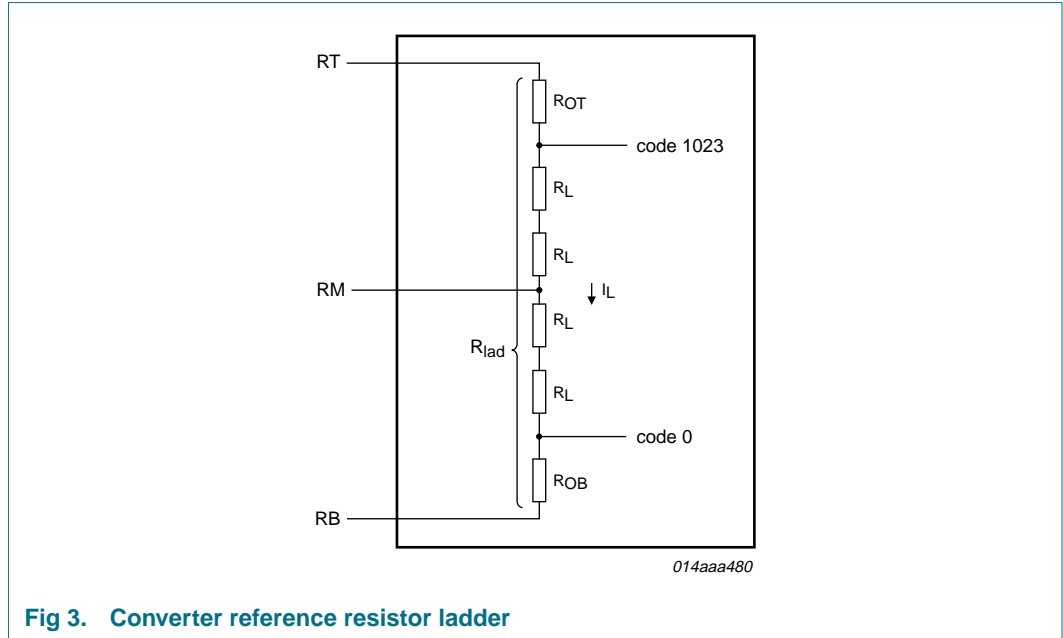

Fig 3. Converter reference resistor ladder
- [3] To ensure the optimum linearity performance of such a converter architecture the lower and upper extremities of the converter reference resistor ladder are connected to pins RB and RT via offset resistors R_{OB} and R_{OT} as shown in Figure 3.